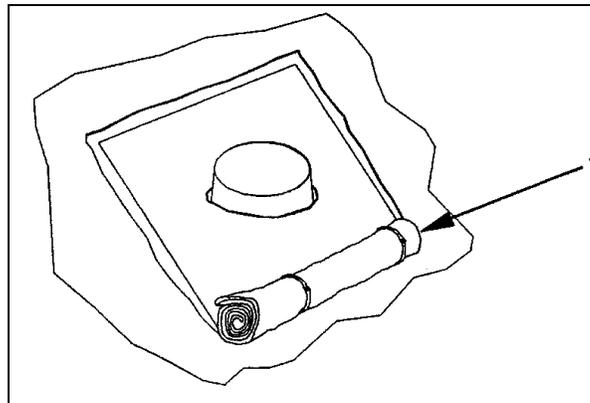
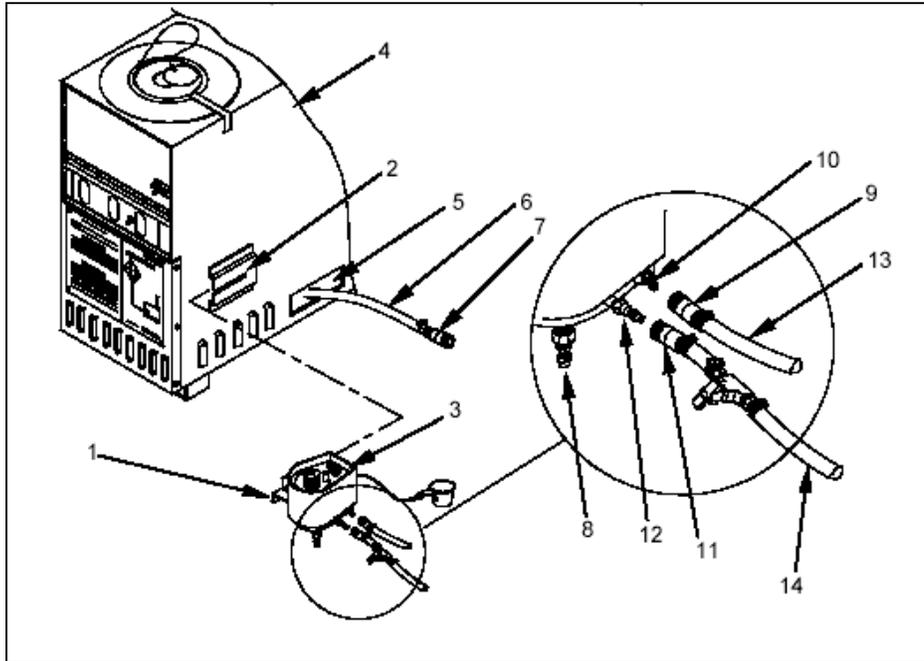

Figure 4
Figure 6
(7) Before operation perform the "Before Operation PMCS" on all SHA system components as outlined in the TM, prior to preparing the heater for use. All scheduled maintenance must be performed on the heater and its associated equipment prior to use.
(8) Set up the heater inside its operating space (shelter). The area selected must be level and free of debris and flammable materials.
(9) Assembly of the stack assembly:
- (See Figure 4) Securely roll and tie exhaust opening closure flap (1) so it will not touch stack assembly during heater operation. Assemble stack section (See Figure 6), (8) and (9) (stamped 1 and 2), ensuring that the seams are lined up. Place the largest diameter stack section (stamped 1), into the heater. Set the heater directly under the shelter exhaust opening.
- a. Install the fuel flow control valve (See Figure 6):
(1) Slide fuel flow control valve from front to back fully into the sleeve on the right side of the heater. Be certain that the control valve is fully seated in the sleeve, does not bind in the sleeve, and is level with heater when installed.
(2) Reach into the cutout area on the right side of the SHA and pull out the fuel control outflow hose.
(3) Connect overflow hose Quick Disconnect (QD) to fuel discharge fitting on base of control valve.
(4) Connect fuel supply hose to fuel inlet fitting.